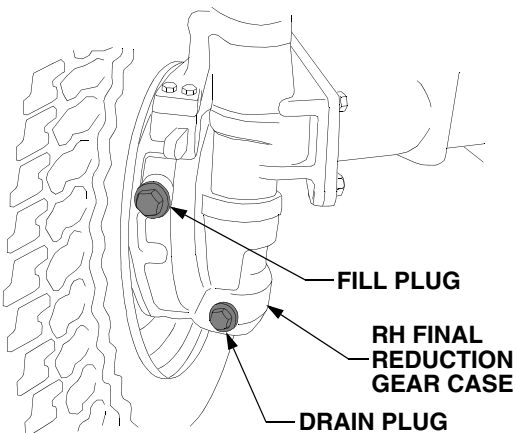

Figure 48
- Remove the fill plug and drain plug from the gear case and drain the oil. See Figure 48. After the oil has drained, reinstall the drain plug.